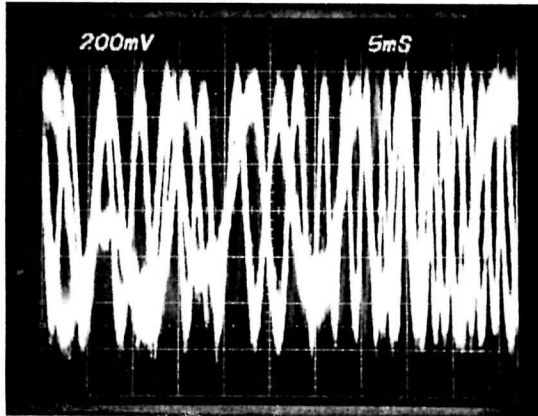

Fig. 7-4
- 3) Connect the oscilloscope between J202 pin ② and GND.
- 4) Adjust the optical axis adjustment screw so that T.E (Truck Error) signal becomes maximum. (Fig. 7-4)